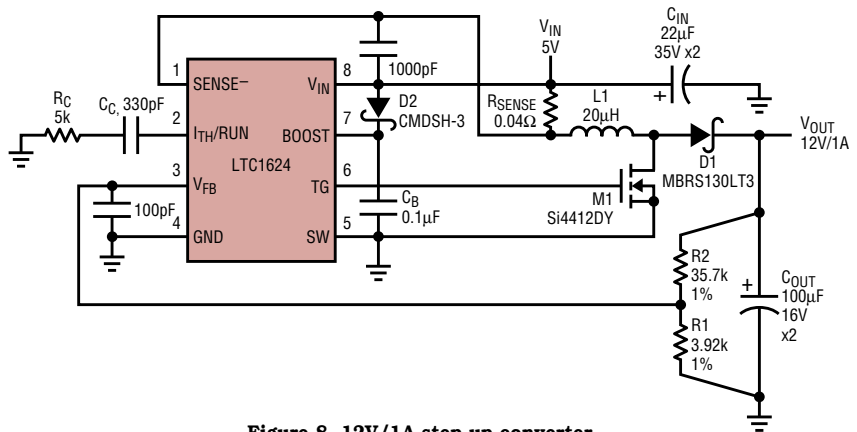

Figure 8. 12V/1A step-up converter
Step-up and SEPIC applications require a low-side switch pulling the inductor to ground (see Figures 8 and 10). Since the source of the MOSFET must be grounded, the switch pin (SW) on the LTC1624 is also grounded in order for the driver to supply a gate-to-source signal to control the MOSFET. In these applications, the voltage on the boost pin is a constant 5V, resulting in a 0V-5V gate-drive